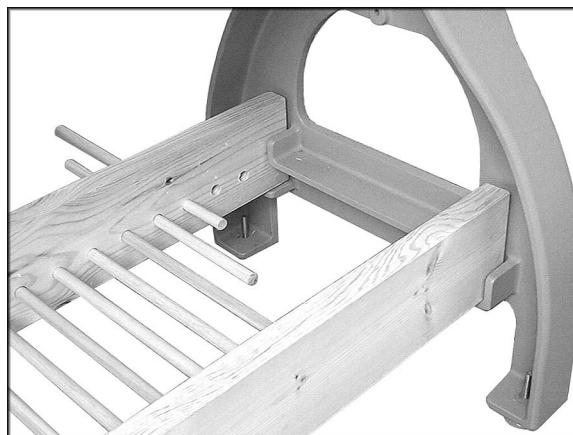

Figure 12
Shelf Style 3: (Figure 12)
This is a basket-style shelf consisting of two 2x6's and dowel rods. The advantage of this design is that most wood chips will fall through the shelf instead of accumulating on it. The instructions below are for building the shelf shown in Figure 12. The completed shelf is shown on the front cover of this manual.
6. Insert the dowel rods through the holes in the rear 2x6, as shown in Figure 12.